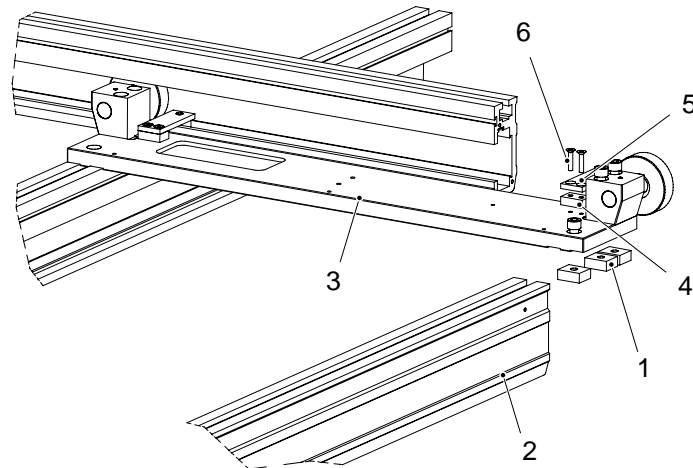

Fig. 5-16
- Install the side position bearings on the distance plates. See Fig. 5-16 .